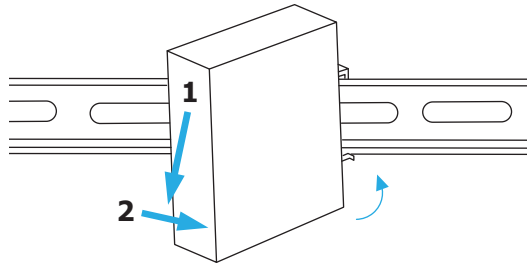

Figure 1
1. Mount the **Gigabit Ethernet Industrial Unmanaged Switch** by inserting the **DIN Rail Bracket** onto the **DIN Rail** at an angle, starting from the top then push against the **DIN Rail** (Figure 1).